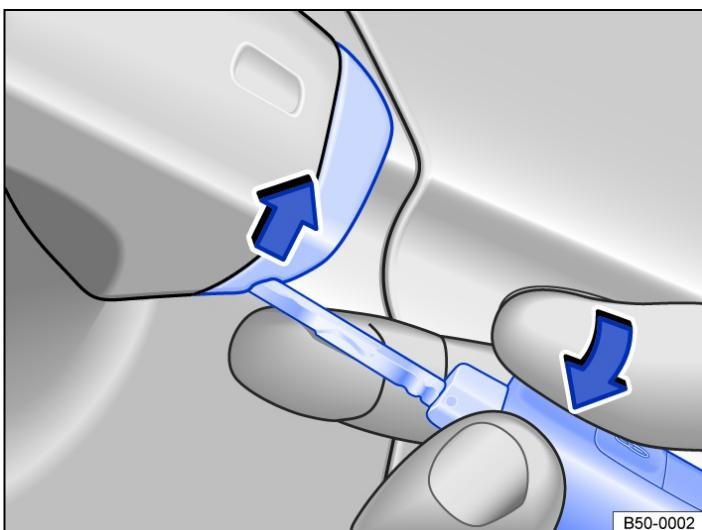

Fig. 2 Handle on the driver door: levering off the cover.
- Lift the cap off with the vehicle key in the direction of the arrow → *Fig. 2*.